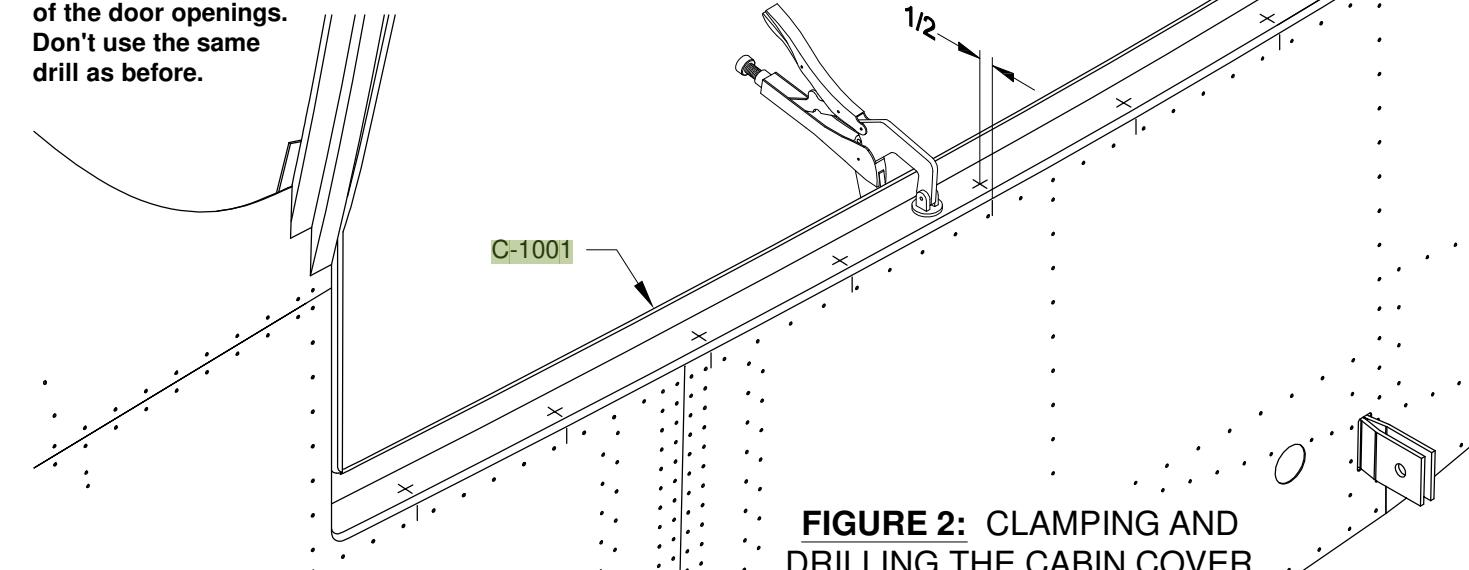

FIGURE 2: CLAMPING AND DRILLING THE CABIN COVER
Step 5: Clamp the middle, bottom portion of the C-1001 Cabin Cover door openings to the underlying F-1015C Mid Cabin Decks as shown in Figure 2.